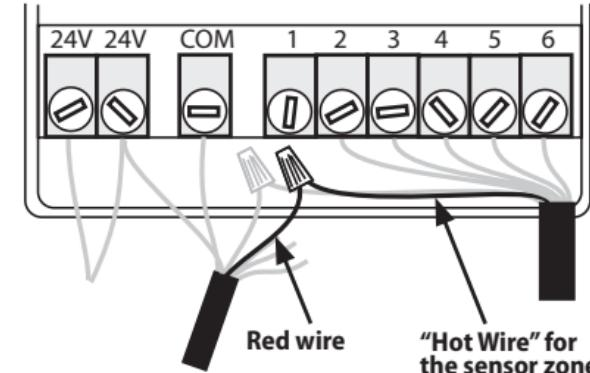

Figure 10
4. Disconnect the target zone wire identified and marked earlier (zone #1 in figure 10). Connect it to the Red wire of the SMRT-Y user interface with a wire nut (see Figure 10).